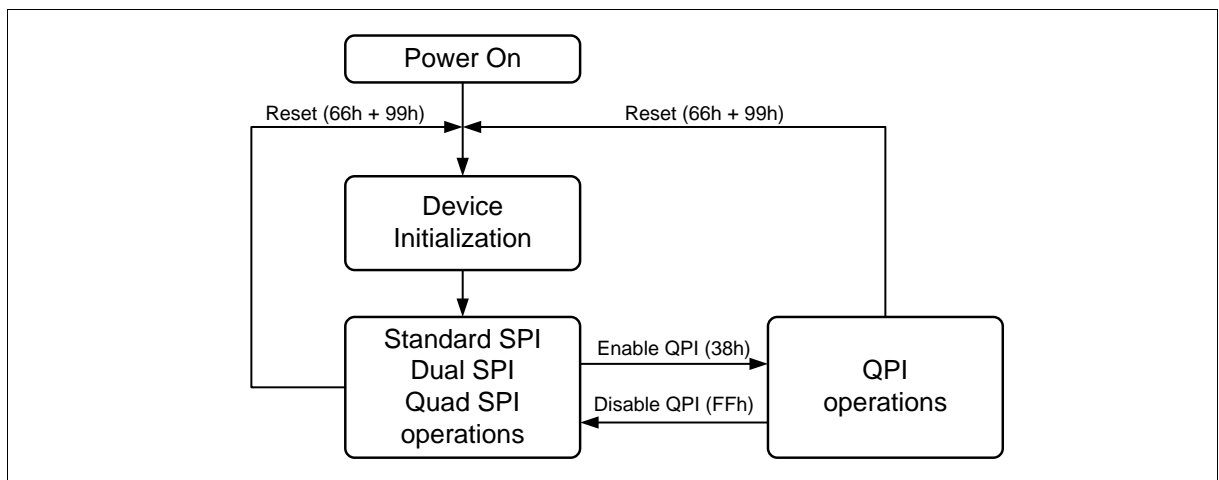

Figure 2 FM25Q16A Serial Flash Memory Operation Diagram
The FM25Q16A supports Quad Peripheral Interface (QPI) operations only when the device is switched from Standard/Dual/Quad SPI mode to QPI mode using the “Enable QPI (38h)” instruction. The typical SPI protocol requires that the byte-long instruction code being shifted into the device only via DI pin in eight serial clocks. The QPI mode utilizes all four DQ pins to input the instruction code, thus only two serial clocks are required. This can significantly reduce the SPI instruction overhead and improve system performance in an XIP environment. Standard/Dual/Quad SPI mode and QPI mode are exclusive. Only one mode can be active at any given time. “Enable QPI (38h)” and “Disable QPI (FFh)” instructions are used to switch between these two modes. Upon power-up or after a software reset using “Reset (99h)” instruction, the default state of the device is Standard/Dual/Quad SPI mode. To enable QPI mode, the non-volatile Quad Enable bit (QE) in Status Register-2 is required to be set. When using QPI instructions, the DI and DO pins become bidirectional  $DQ_0$  and  $DQ_1$ , and the WP# and HOLD# pins become  $DQ_2$  and  $DQ_3$  respectively. See Figure 2 for the device operation modes.